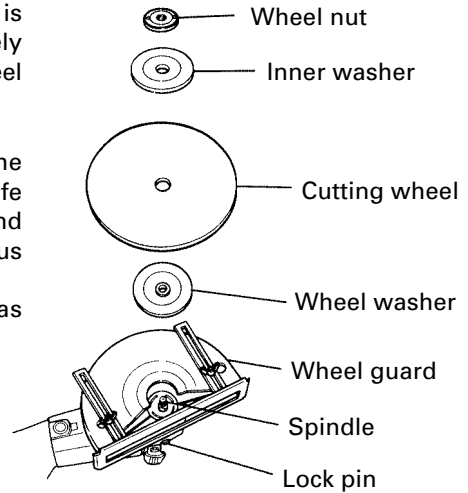

Fig. 2
Confirm that the lock pin is disengaged by pushing lock pin two or three times before switching the power tool on (See Fig. 2).
1. Assembling (Fig. 2, 3)